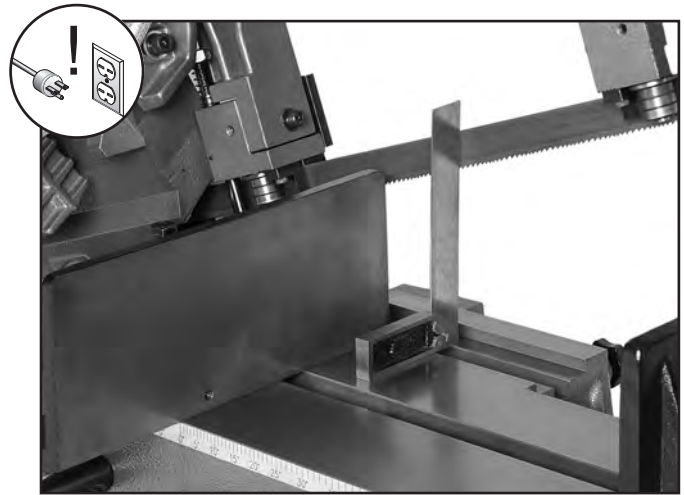

Figure 45. Square blade to table.
2. Examine your workpiece for clues as to which way the blade is twisted, or Set up a machinist square on the table and blade as shown in **Figure 45**.